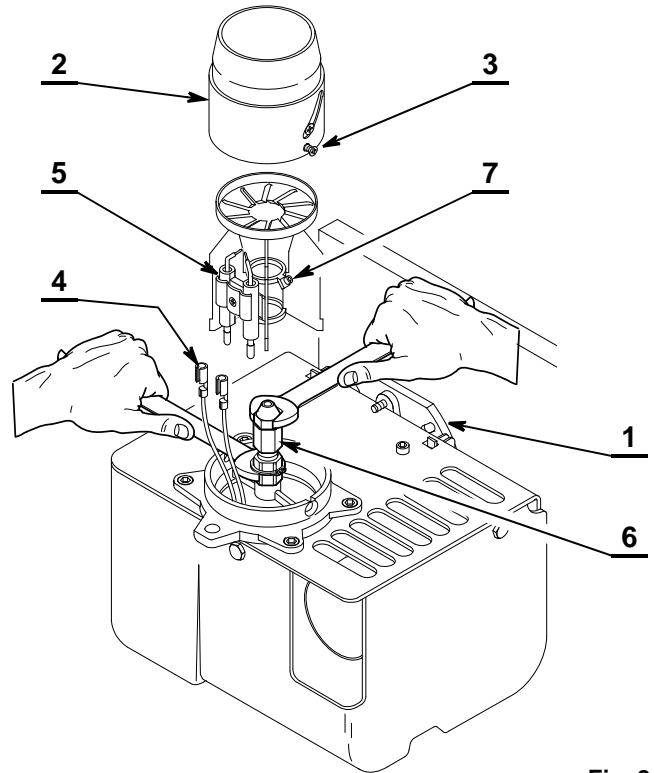

Fig. 21
- Hook the burner to the flange 1)(Fig. 21), by removing the blast tube 2) after loosening the fixing screws 3).
- Once replacement of the nozzle has been made, screw it and tighten it as shown in the Fig. 21.